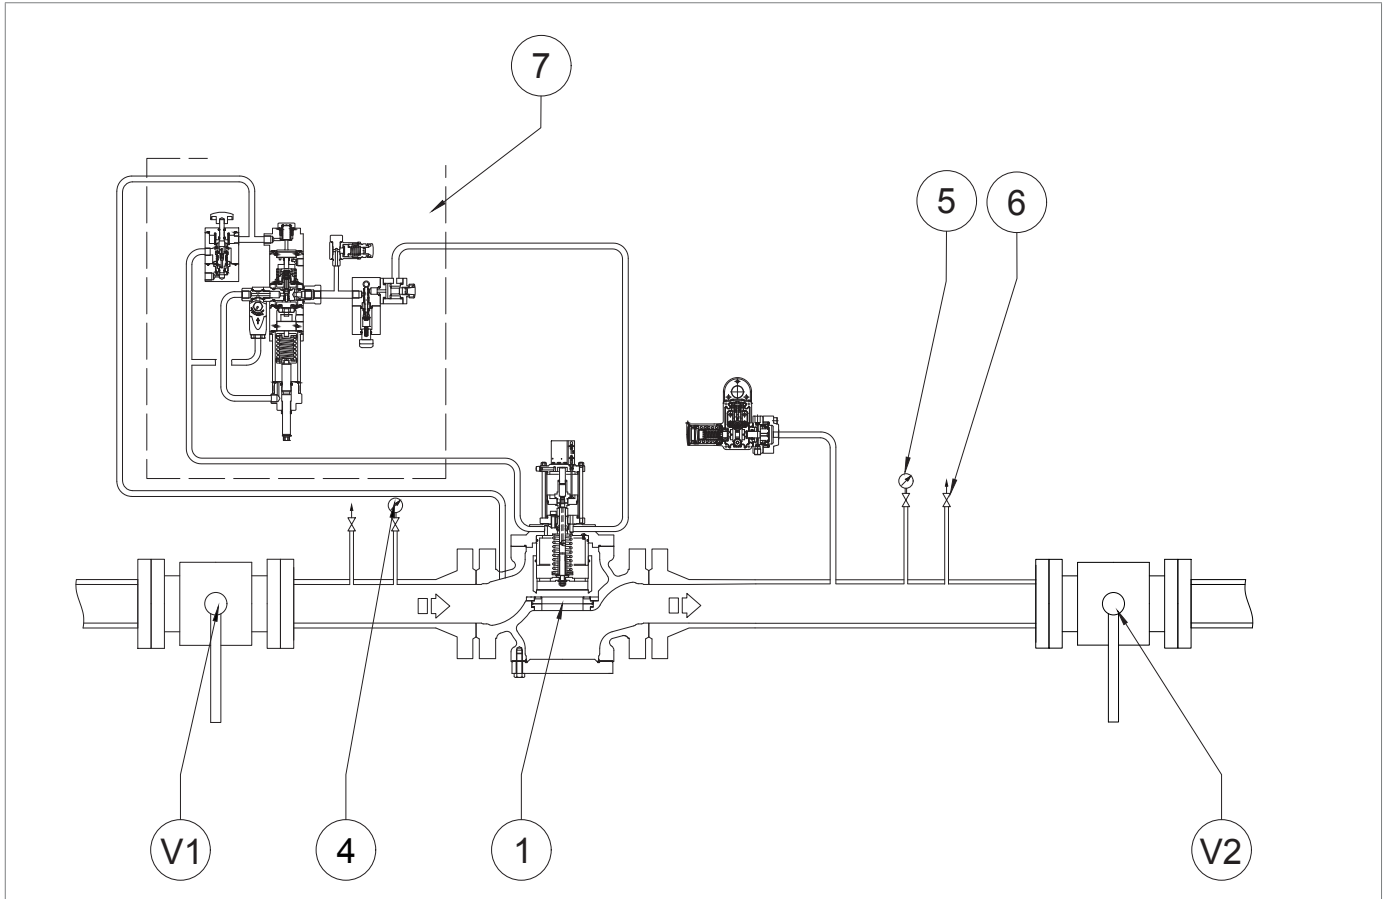

Fig. 8.11. Sealing of the HBC 975 slam-shut valve when closing
1	<p>By acting on the main regulator, increase the downstream pressure up to the tripping value of the slam-shut valve, to check for proper calibration.</p> <div style="border: 1px solid blue; padding: 5px;"> <p>! NOTE!</p> <p>Check the pressure referring to the pressure gauge (fig. 8.11, ref. 5) downstream of the main regulator.</p> <p>If the slam-shut valve:</p> <ul style="list-style-type: none"> <li>• trips before the expected pressure value: screw in (clockwise) the adjustment ring nut (13) so as to further compress the spring (11);</li> <li>• does not trip at the expected pressure value: unscrew (anticlockwise) the adjustment ring nut (13) so as to relieve the spring (11).</li> </ul> </div>
2	By opening the vent (fig.8.11, ref. 6), decrease the pressure in the downstream section to the calibration value of the main regulator.
3	Close the vent (fig.8.11, ref. 6).
1	Open the vent (fig.8.11, ref. 6) to the atmosphere and keep it open for the next steps.
2	<p>Decrease the downstream pressure to the minimum tripping pressure of the slam-shut device by adjusting the pilot.</p> <div style="border: 1px solid blue; padding: 5px;"> <p>! NOTE!</p> <p>Check the pressure referring to the downstream pressure gauge (fig. 8.11, ref. 5).</p> <p>If the slam-shut valve:</p> <ul style="list-style-type: none"> <li>• trips before the expected pressure value: unscrew (anticlockwise) the adjustment ring nut (15) so as to relieve the spring (17);</li> <li>• does not trip before the expected pressure value, screw in (clockwise) the adjustment ring nut (15) so as to further compress the spring (17).</li> </ul> </div>
5	Open the vent again (fig. 8.11, ref. 6).
10	Close the vent (fig.8.11, ref. 6).